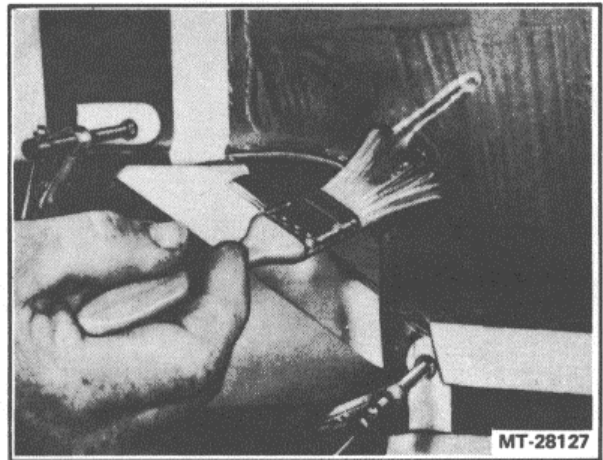

Figure 29. - Applying Resin to Separating Film
7. Apply some resin to the working area of the separating film (Figure 29).